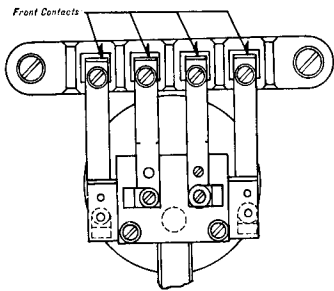

Fig. 4—Four Front Contacts
- (a) Four front contacts (Figures 4 and 11).